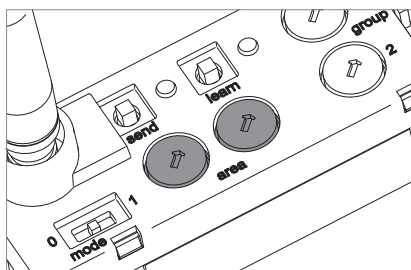

Fig. 7: "area" rotary coding switch.
- Set both "area" rotary coding switches to the desired area address, see Fig. 7. When luminaire communication is active, all luminaires to which a wireless module has been connected communicate with one another and update themselves automatically.